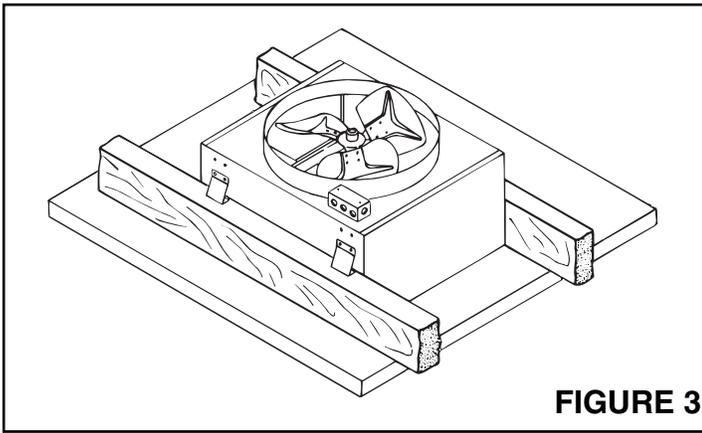

FIGURE 3
6. Refer to Figure 3. Push fan housing into ceiling cutout. Support clips will hold housing in place on joists.